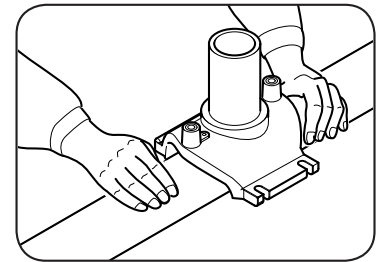

FIG.1
- 3 Apply the saddle on to the pipe watching out not to dirty the previously cleaned surfaces (see fig.1).